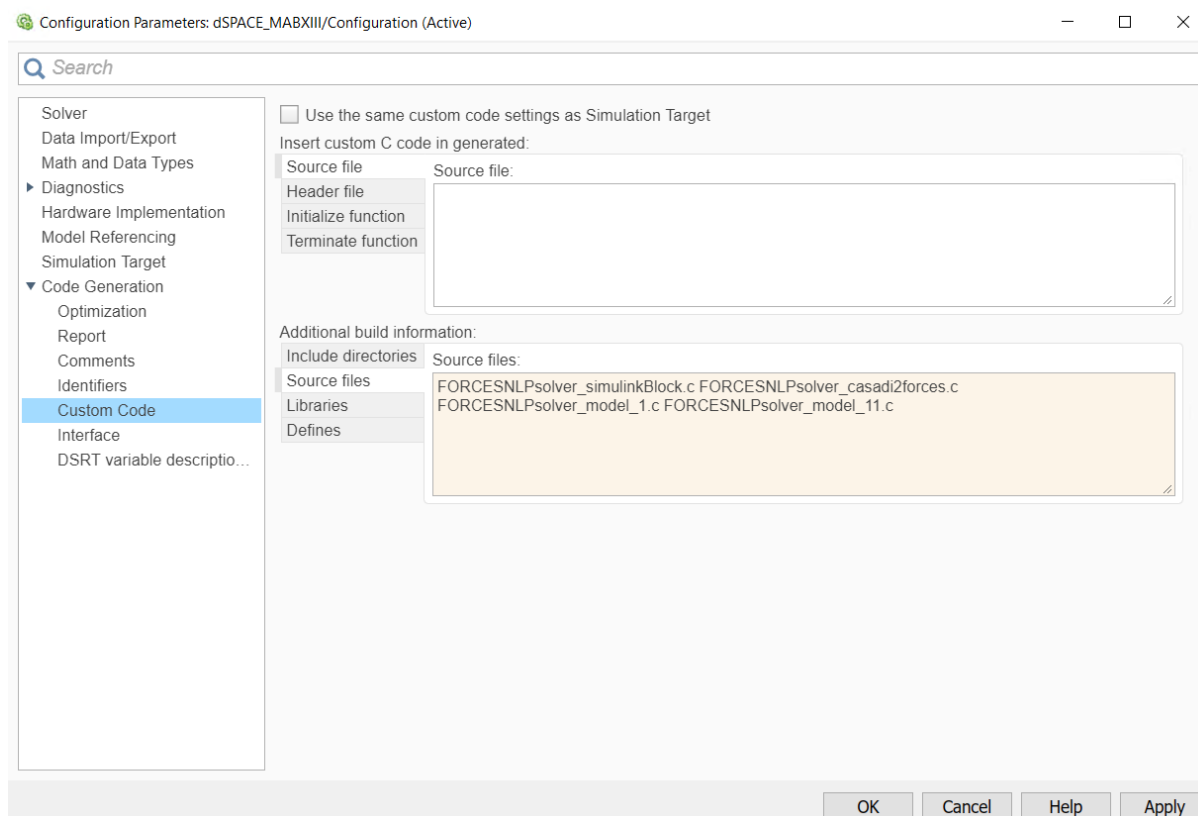

Figure 12.67: Add the source files used for the code generation.
- 11) In the "Code Generation/Custom Code" tab, add the source files (see Figure 12.67):